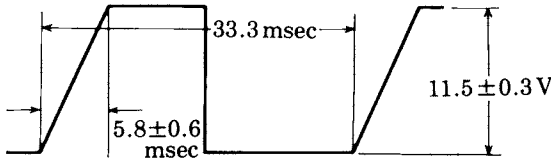

Fig. 99
3. Make sure that waveform of TP209 becomes in Fig. 99.